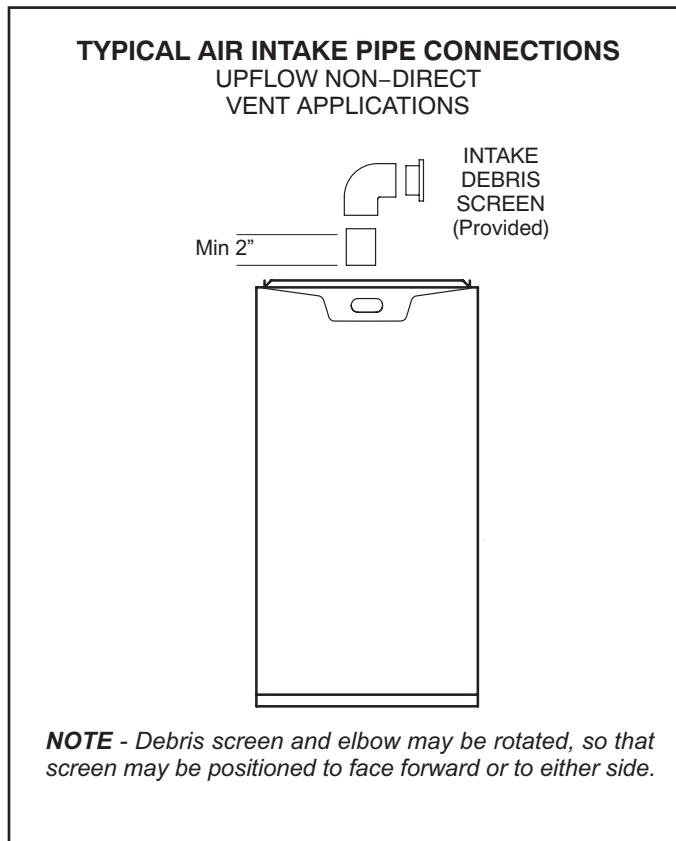
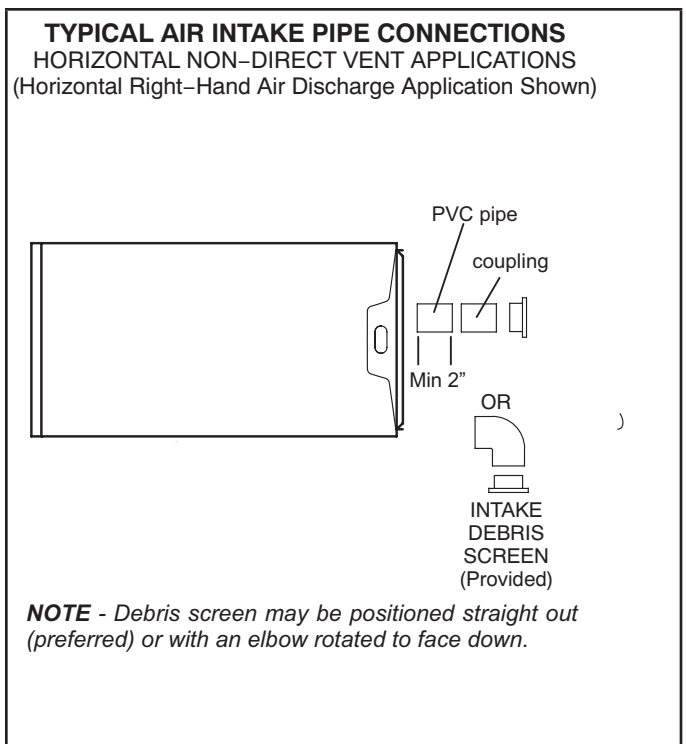

FIGURE 27
FIGURE 28
- 1 - Use field-provided materials and the factory-provided air intake screen to route the intake piping as shown in FIGURE 27 or FIGURE 28. Maintain a minimum clearance of 3" (76mm) around the air intake opening. The air intake opening (with the protective screen) should always be directed forward or to either side in the upflow position, and either straight out or downward in the horizontal position. **The air intake piping must not terminate too close to the flooring or a platform. Ensure that the intake air inlet will not be obstructed by loose insulation or other items that may clog the debris screen.**